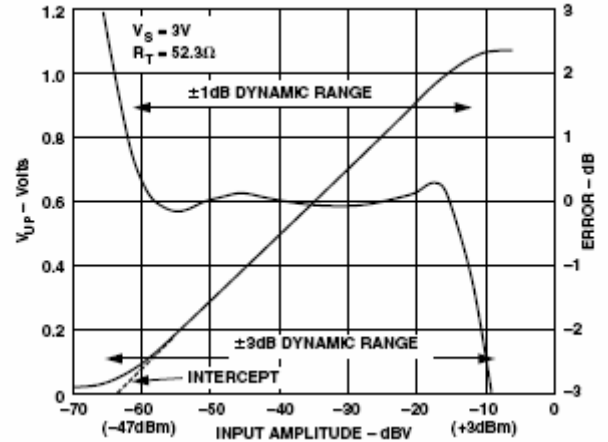

Figure 23. VOUT and Log Conformance Error vs. Input Level vs. Input Level
0.9 GHz, and only slightly less at higher frequencies up to 2.5 GHz. At a slope of 21.5 mV/dB, this would amount to an output span of 967 mV. Figure 23 shows the transfer function for VOUT at a supply voltage of 3 V, and input frequency of 0.9 GHz.
The load resistance on VOUT should not be lower than 10 k Ω in order that the full-scale output of 1 V can be generated with the limited available current of 200 μ A max. Figure 23 shows the logarithmic conformance under the same conditions.